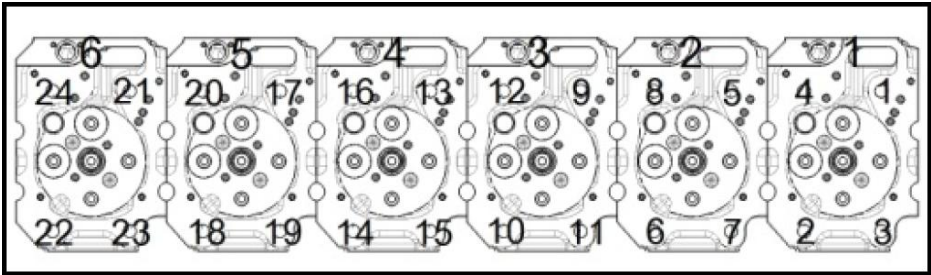

Figure 65. Main Bolt Torquing Order
- 3. Lightly oil the threads and shoulder of the cylinder head main bolts (Figure 65, Item 5) and cylinder head secondary bolts (Figure 65, Item 1). Lightly oil the clamping block (Figure 65, Item 3) and end plate (Figure 65, Item 4) and insert.
- 5. Tighten the main bolts in order (Figure 65) 1 through 24 to a torque of 59 lb-ft.